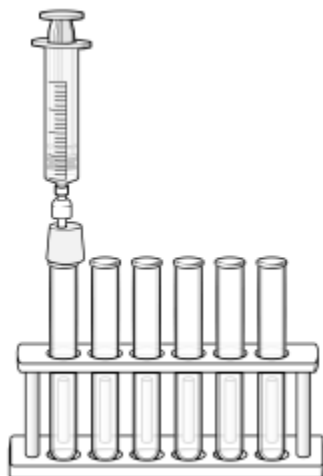

Figure 2
- a. Arrange six test tubes in a test tube rack (see Figure 2).